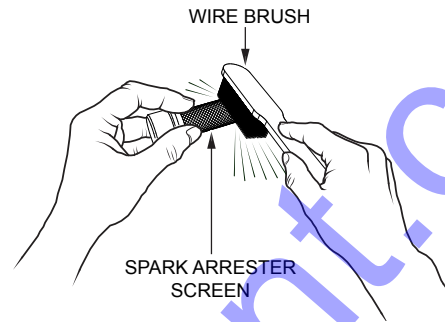

Figure 34. Cleaning The Spark Arrester
4. Carefully remove carbon deposits from the spark arrester screen (Figure 34) with a wire brush.